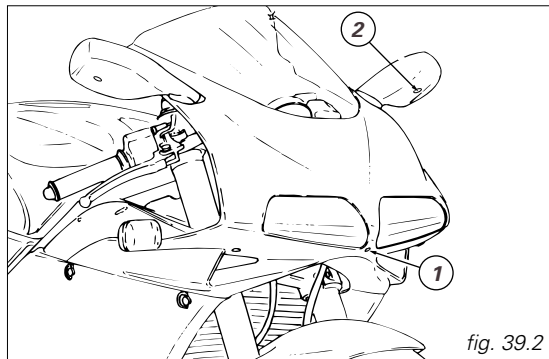

fig. 39.2
The height of the light beam can be corrected using the adjusting screw (1, fig. 39.2) on the beam front. Turn the screw clockwise to lower the beam, turn anticlockwise to lift.
*Slacken the screw in the hole (2, fig. 39.2) with a cross-point screwdriver. Set the rear view mirror by hand and tighten the screws.*